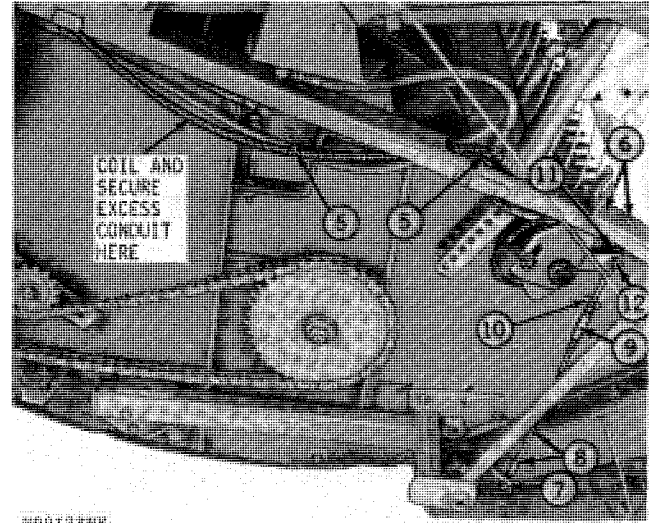

Fig. 111-Installing Header Height Control Parts
NOTE: A common conduit is provided for installation on all sizes of 200 Series Platforms. Coil excess conduit (smaller platforms) and secure with self-locking band (Fig. 111). Allow enough conduit for the connection at the feeder house.
6. Attach switch assembly to the under side of end sheet edge with two existing round head bolts and nuts (Fig. 111).
7. Attach a ball joint to the sensing rod bracket with a 3/8-inch fine thread nut (Fig. 111).
8. Thread left-hand (long) push rod link in ball joint and lock with a 5/16-inch fine thread jam nut (Fig. 111).
9. Thread turnbuckle on left-hand push rod link (Fig. 111).
10. Thread 5/16-inch wing nut on right-hand (short) push rod link and then thread link into turnbuckle (Fig. 111).
11. Thread the other ball joint on right-hand (short) push rod link and lock with a 5/16-inch fine thread jam nut (Fig. 111).
12. Attach upper ball joint to cam arm with a 3/8-inch fine thread nut (Fig. 111).